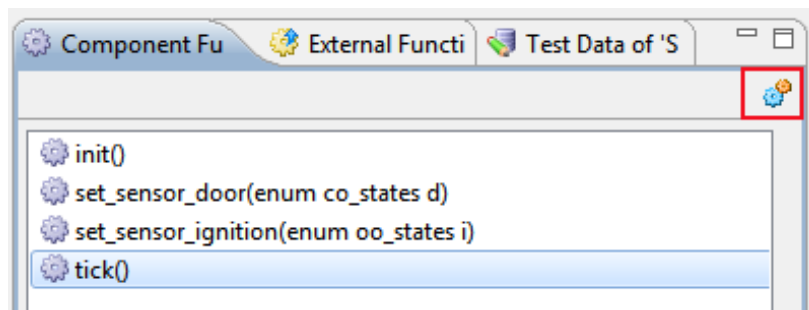

Figure 5.83: Setting the Work Task
- Click on  (Set as Work Task) in the tool bar (see figure 5.83).